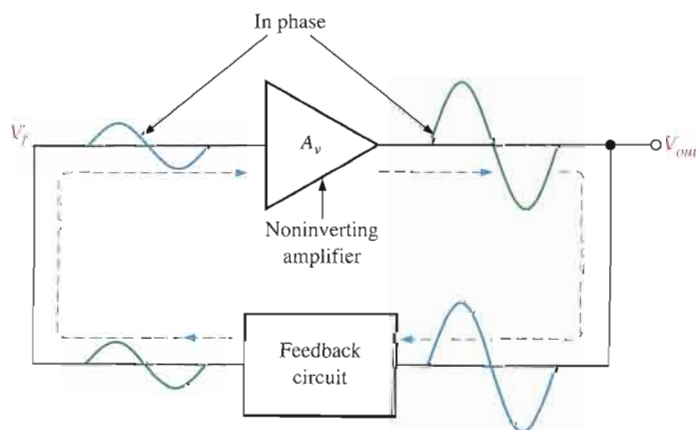

FIGURE 16–3
Positive feedback is characterized by the condition wherein an in-phase portion of the output voltage of an amplifier is fed back to the input with no net phase shift, resulting in a reinforcement of the output signal. This basic idea is illustrated in Figure 16–3. As you can see, the in-phase feedback voltage, V_f , is amplified to produce the output voltage, which in turn produces the feedback voltage. That is, a loop is created in which the signal sustains itself and a continuous sinusoidal output is produced. This phenomenon is called *oscillation*.
Two conditions, illustrated in Figure 16–4, are required for a sustained state of oscillation:
► **FIGURE 16–4**
So far, you have seen what it takes for an oscillator to produce a continuous sinusoidal output. Now let's examine the requirements for the oscillation to start when the dc supply voltage is first turned on. As you know, the unity-gain condition must be met for oscillation to be sustained. For oscillation to *begin*, the voltage gain around the positive feedback loop must be greater than 1 so that the amplitude of the output can build up to a desired level. The gain must then decrease to 1 so that the output stays at the desired level and oscillation is sustained. Ways that certain amplifiers achieve this reduction in gain after start-up are discussed in later sections of this chapter. The voltage gain conditions for both starting and sustaining oscillation are illustrated in Figure 16–5.